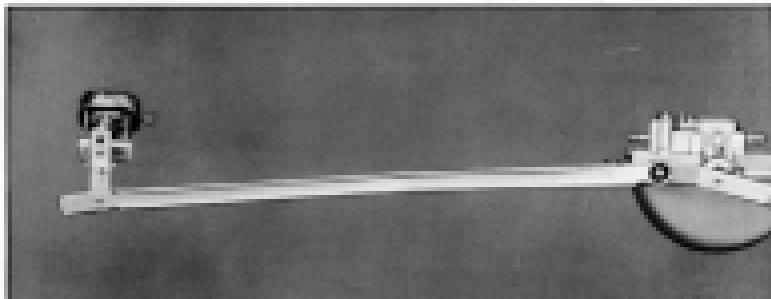

Fig. 28. Windshield Wiper Transmission and Motor Layout—'78 and '81 Series
- a. Apply slight pressure to tensioner ratchet spring. See "A", Fig. 28.
- c. Insert "W" locking pin or drift in hole as shown at "B", Fig. 28.
3. Remove ends of cables from motor drive as shown at "C", Fig. 28.
4. Remove the two hex head bolts attaching wiper transmission to underside of cowl shown at "C", Fig. 28.
1. Remove link from motor. (See Fig. 28)